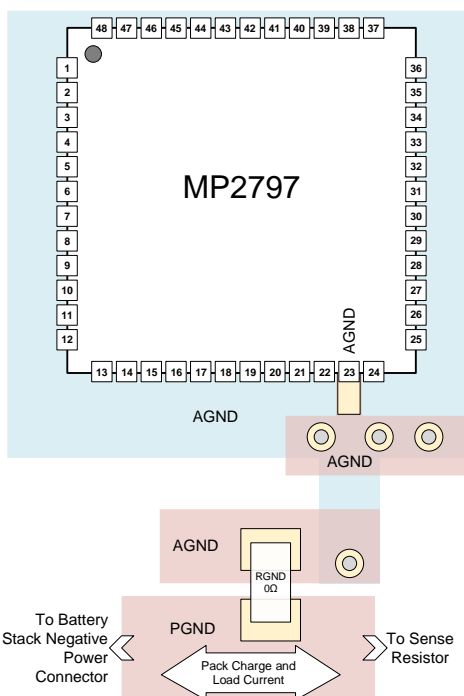
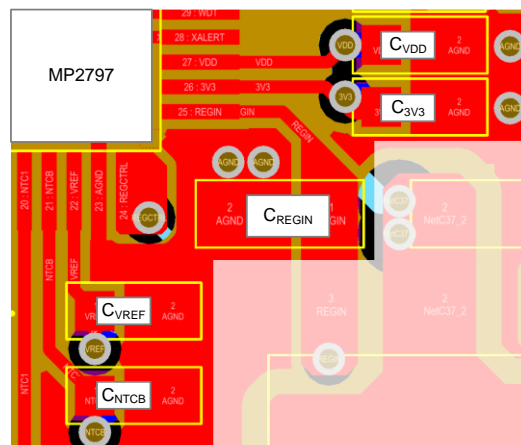
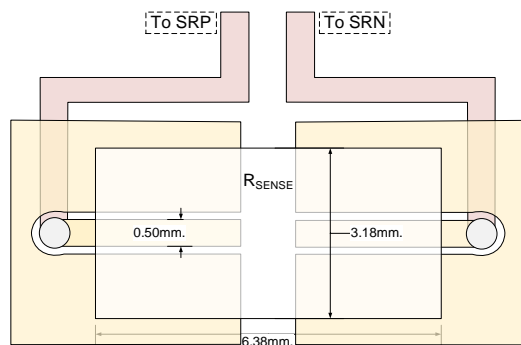

Figure 23: Recommended Layout for AGND
Figure 24: Recommended Layout for Decoupling Capacitors
Figure 25: 2512 Sense Resistor using 4-Wire Footprint
Proper PCB layout is critical to reduce noise, and to optimize the device's accuracy and reliability. For the best results, refer to Figure 23, Figure 24, and Figure 25, and follow the guidelines below:
1. Route the ground plane such that it reduces ground noise and prevents stray current (see Figure 23).
to each pin. Minimize the trace inductance from these pins to AGND (see Figure 24).
6. Consider Kelvin connections at the sense resistor. A sense resistor with a dedicated sensing pad is ideal. A simple two-terminal sense resistor can be used in a 4-wire sensing configuration (see Figure 25).